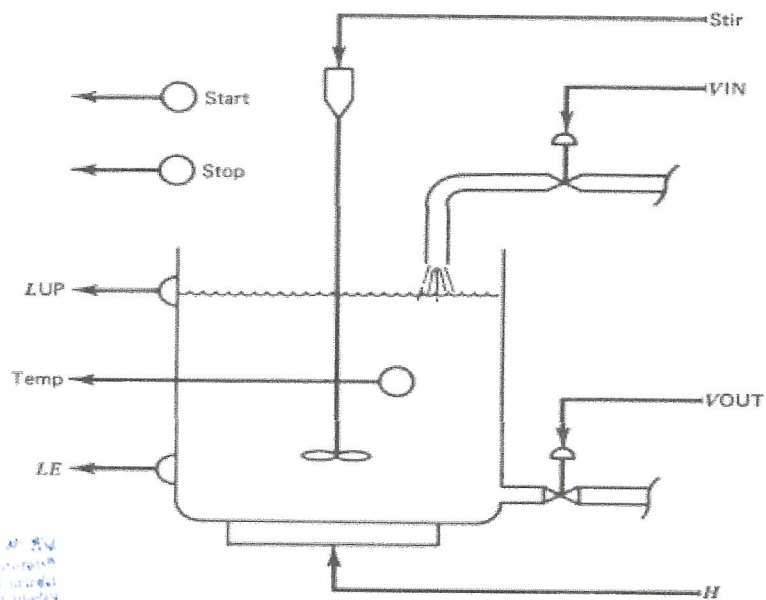

Figure Q4
Q4 Figure Q4 shows a liquid process control. The event sequence is to fill the tank until the up-limit (LUP), then to heat and stir the liquid for 30 minutes, then to empty the tank until the empty-limit (LE), and then repeat the process.